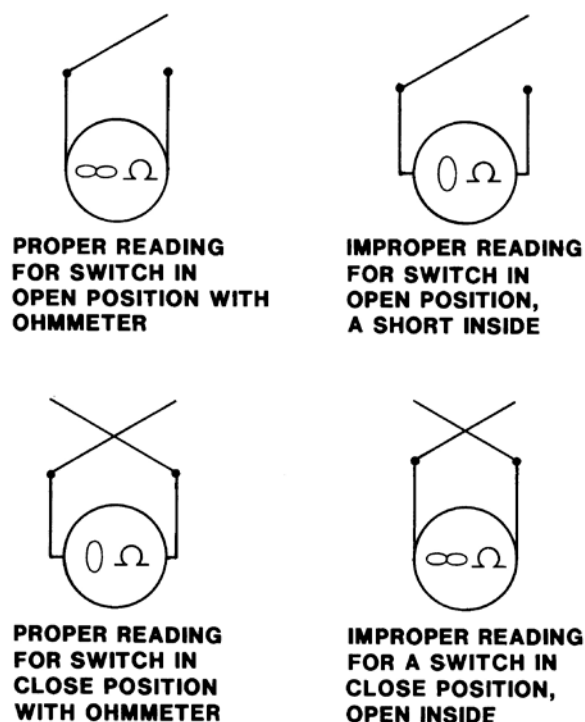

Figure 1-48. Shorted control device.
A shorted control device is one type of a shorted circuit. If all the wire circuits show a normal reading, then your trouble is in a control. Thermostats, relay coils, and fan switches are all examples of units that can become shorted. When testing control devices, isolate the device by disconnecting the wires and take readings with the control open and then closed. A control in an open position would read infinity, which indicates that there is no physical contact within the control, hence no short. A continuity reading across an open switch would indicate a short (fig. 1-48). In almost all cases, you must replace a shorted control device. Very seldom can you repair one successfully.
Remember, a grounded circuit is one in which a phase wire is making physical contact with the equipment or with the conduit. If the phase wire is contacting a grounded conductor (green or bare wire, chassis, or conduit system), you must take your ohm readings between the affected phase wire and the grounded conductor. This can require a check between the isolated (open) phase wire and each of the grounded conductors. To do this, open the neutral at the power panel and check from the phase conductor to the neutral. A zero (0) reading indicates a direct short. Infinity or O.L. indicates that the two conductors are not in physical contact and therefore not shorted. If the neutral is clear of shorts, then check the equipment ground (green) conductor in the same manner. If the equipment ground is clear, then check from the phase wire to the conduit. Somewhere, the phase wire is making physical contact with the conduit. Refer again to figures 1-48, 1-49, or 1-50 for a visual display of this situation.